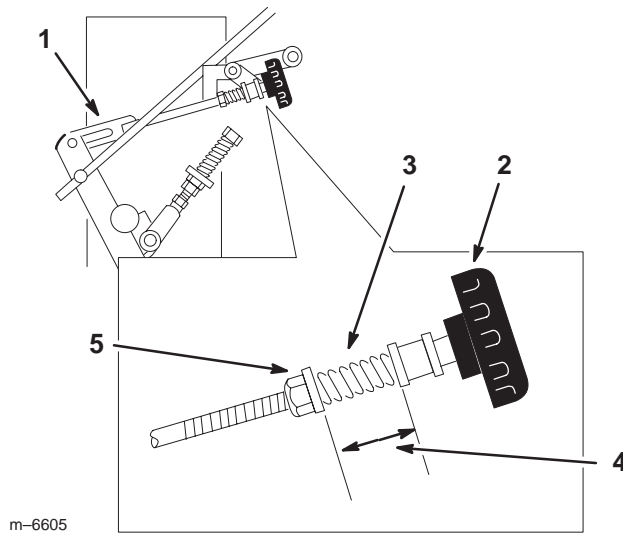

Figure 47
4. Adjust the right side linkage by turning the quick track knob counterclockwise until the tire begins to rotate forward (Fig. 47).
- Turn the knob clockwise 1/4 of a turn at a time. Then move the speed control forward and back to neutral. Repeat this until right wheel stops rotating forward (Fig. 47).
- The spring that keeps tension on the knob should normally not need adjustment. However, if adjustment is needed, adjust the length of the spring to 1 inch (26 mm) between the washers (Fig. 47).
- Adjust spring length by turning the nut at the **front** of the spring (Fig. 47).